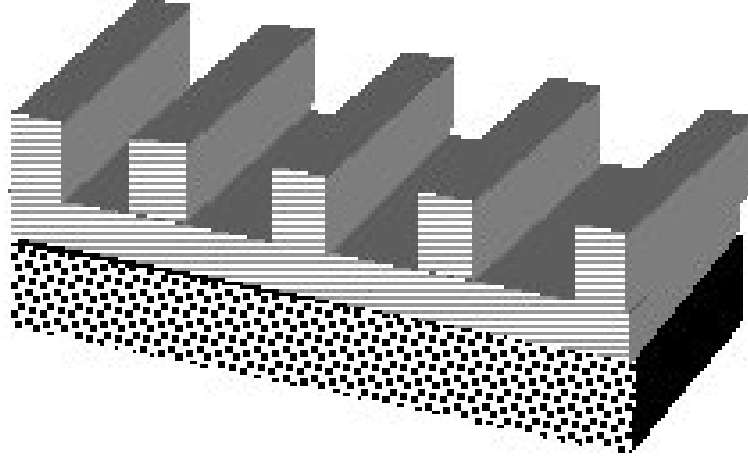

Figure 2: Chip with cooling fins
2. The same chip but with aluminum cooling flanges added to improve cooling, see Figure 2.
The temperature can be reduced by better cooling. Let the chip-octant be $10 \times 10 \times 2 \text{ mm}^3$. Place a 1 mm thick aluminum cap on the chip, then 5 cooling fins 1 mm thick and 1 cm high, essentially as shown in Figure 2 (but higher fins!).